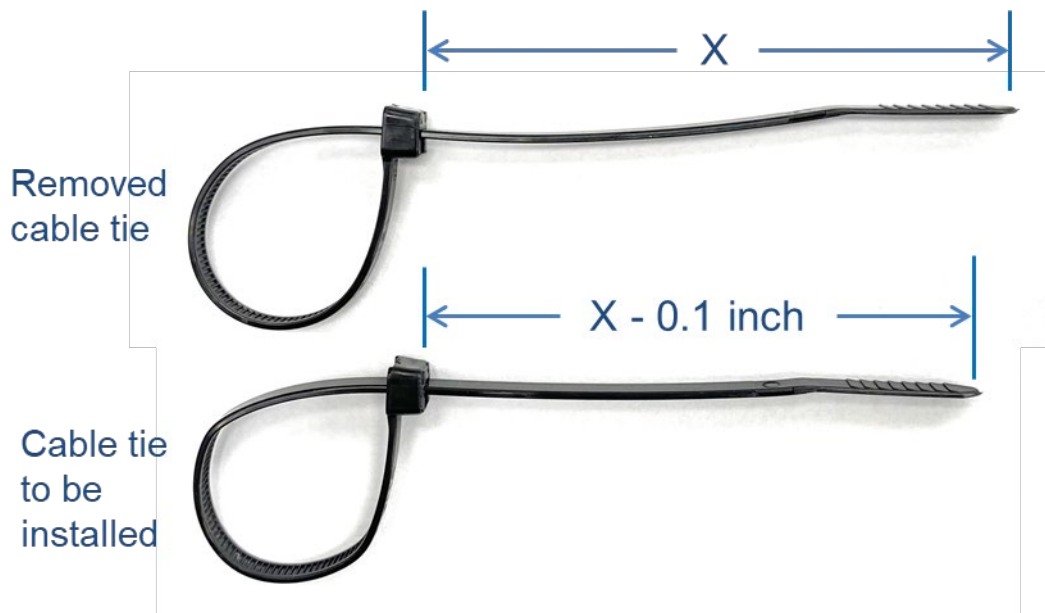

Figure 18-4: LCT reversal length
2. Take a new cable tie and create a slightly longer loop such that the Lightband flange distance will increase ~0.05 inch. Assuming the cable ties are the same length, the exposed length will decrease ~0.1 inch. See Figure 18-4.